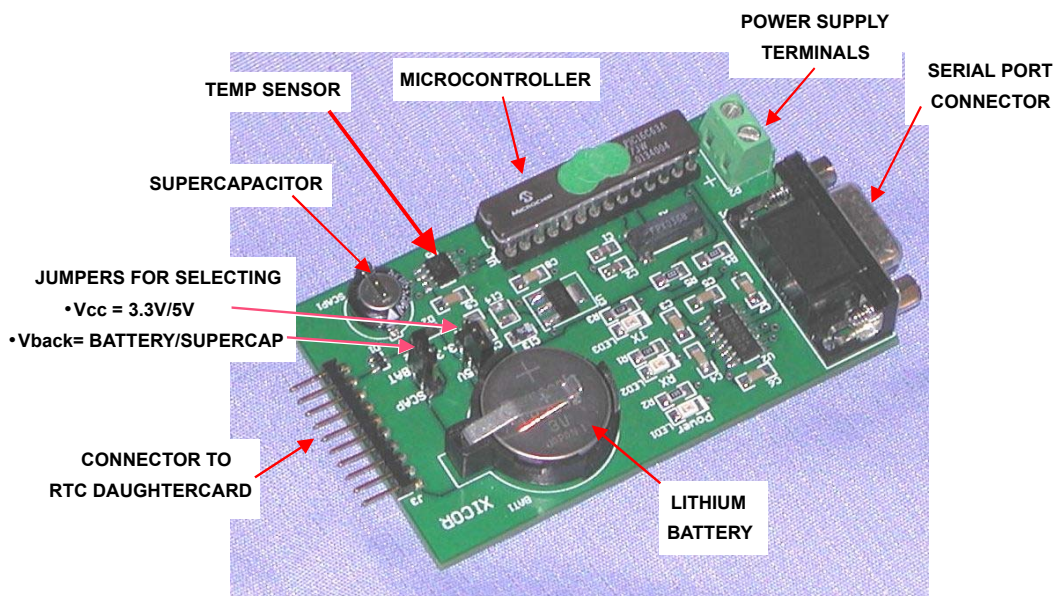
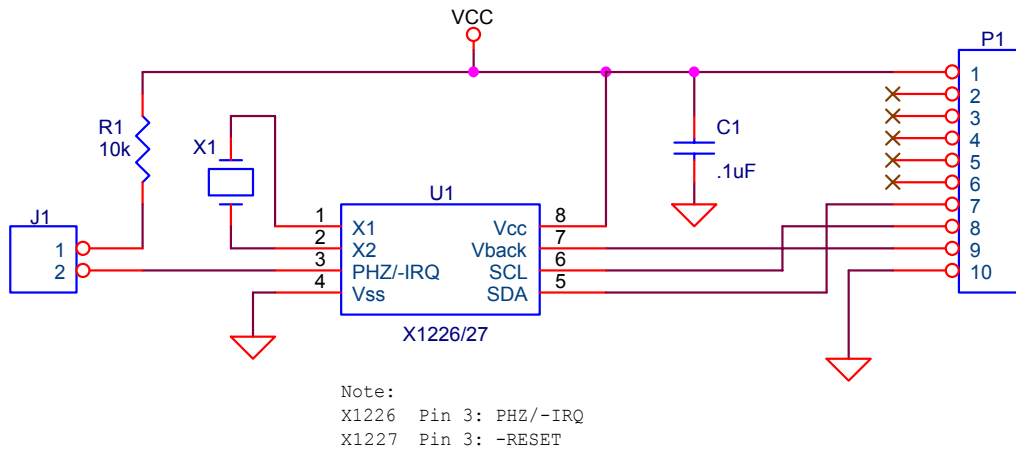
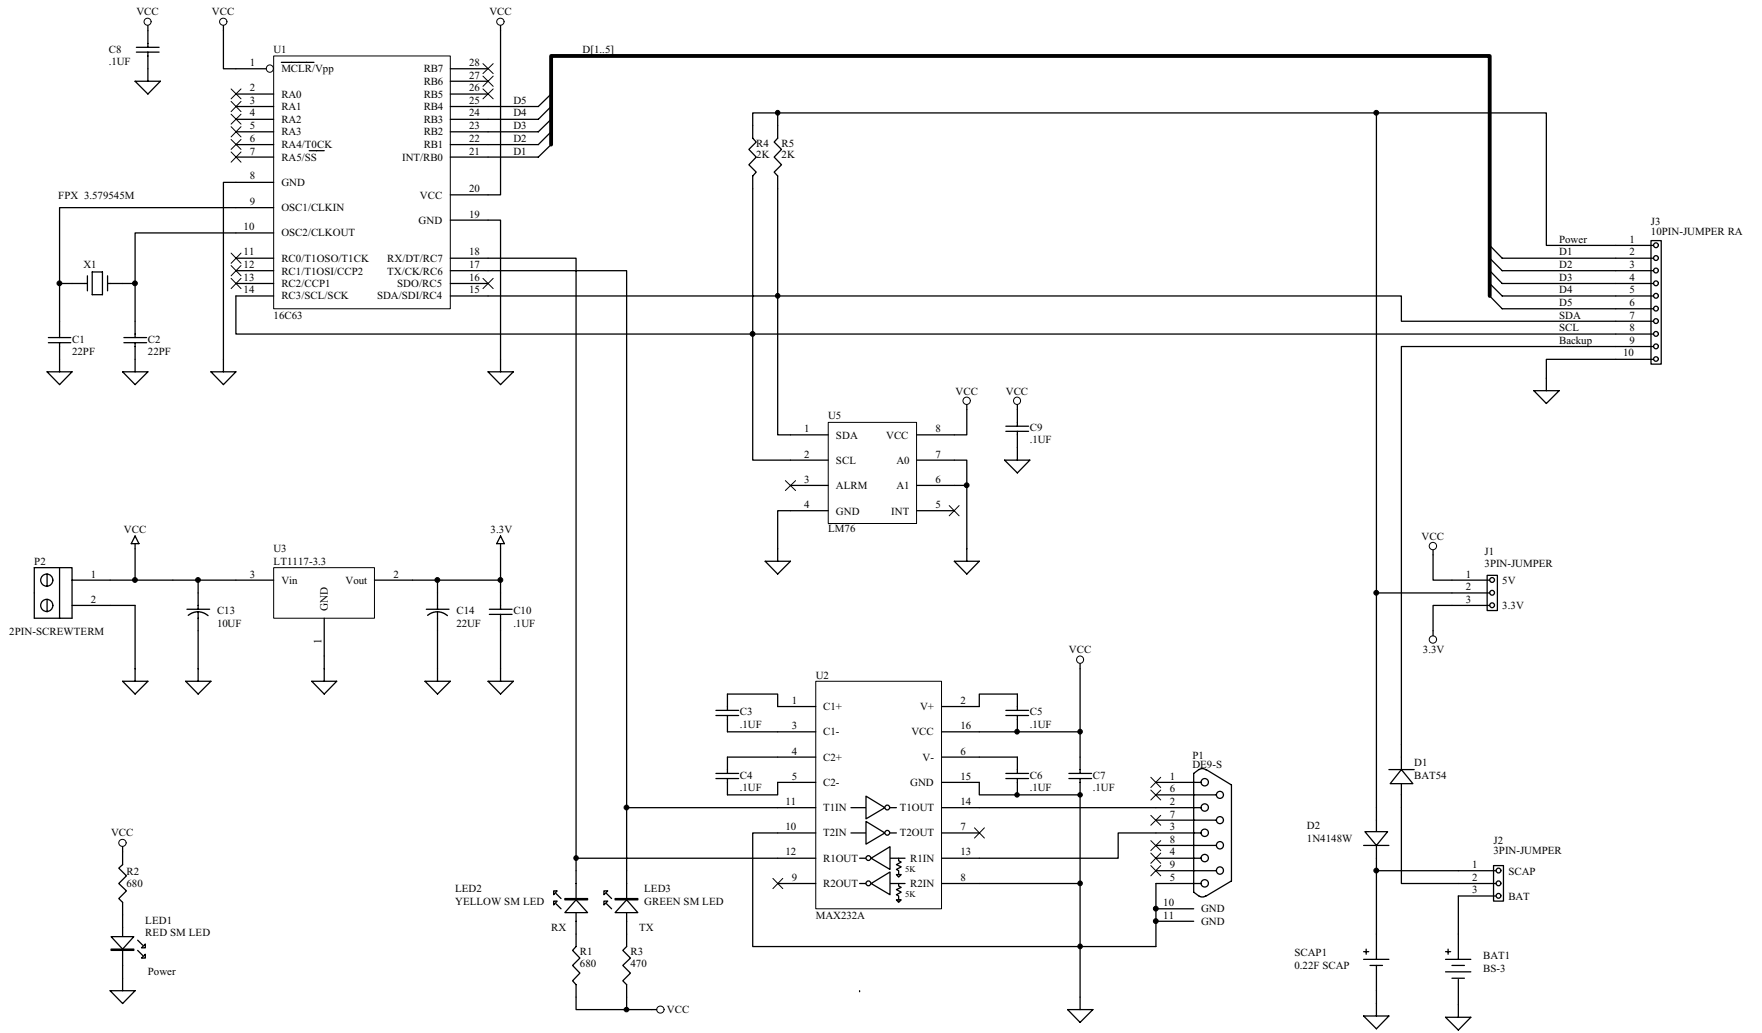

FIGURE 1. RTC EVALUATION BOARD MOTHERBOARD
FIGURE 2. RTC DAUGHTER CARD SCHEMATIC (SHOWING THE X1226/27 RTC DEVICE)
FIGURE 3. RTC MOTHERBOARD SCHEMATIC
2. Evaluation Board – Functional description (see diagram, Figure 1 and schematic, Figure 3)
The power/ground are connected via screw terminals on the board (see Figure 1).
- 2.2. Backup Supply. There are two sources of backup supply (V_{back}) available. A $0.22\mu\text{F}$ super capacitor is on the board. It will provide enough backup power for the typical RTC chip to last for 3 to 5 days at room temperature when V_{cc} is set to 5V. There is also a CR2032 battery included in a socket to allow removal/replacement without soldering. This battery will last from 6-10 years in normal backup operation. The (V_{back}) supply is selectable via a jumper as shown in Figure 1. The jumper may be removed altogether and an alternative source for V_{back} can be attached to the board via the exposed header. The center pin of the header goes to the V_{back} supply (See J2, Figure 2).
3. Daughter card – functional description (see schematic, Figure 2)